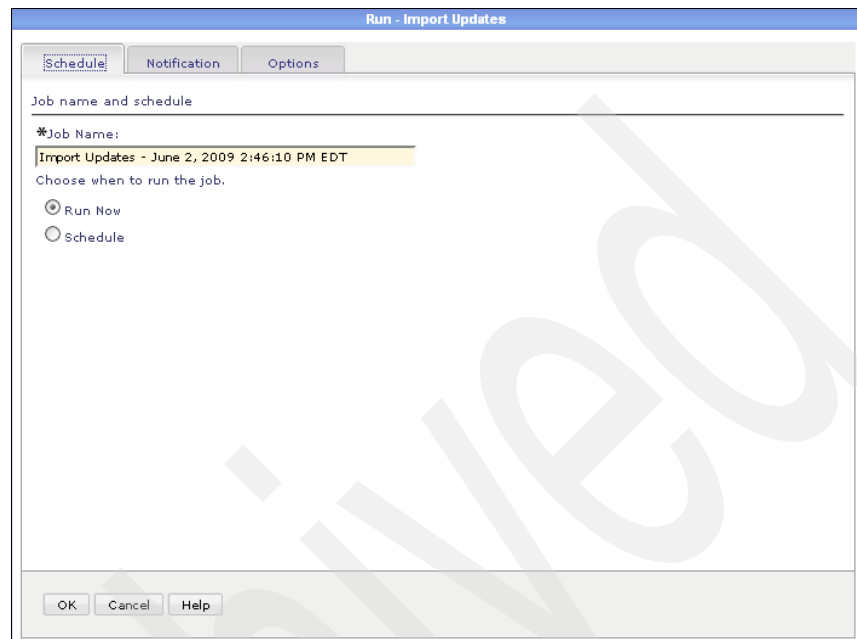

Figure 3-15 Run the job immediately
9. In the Run - Import Updates window, shown in Figure 3-15, click **OK** to run the importing update process immediately.